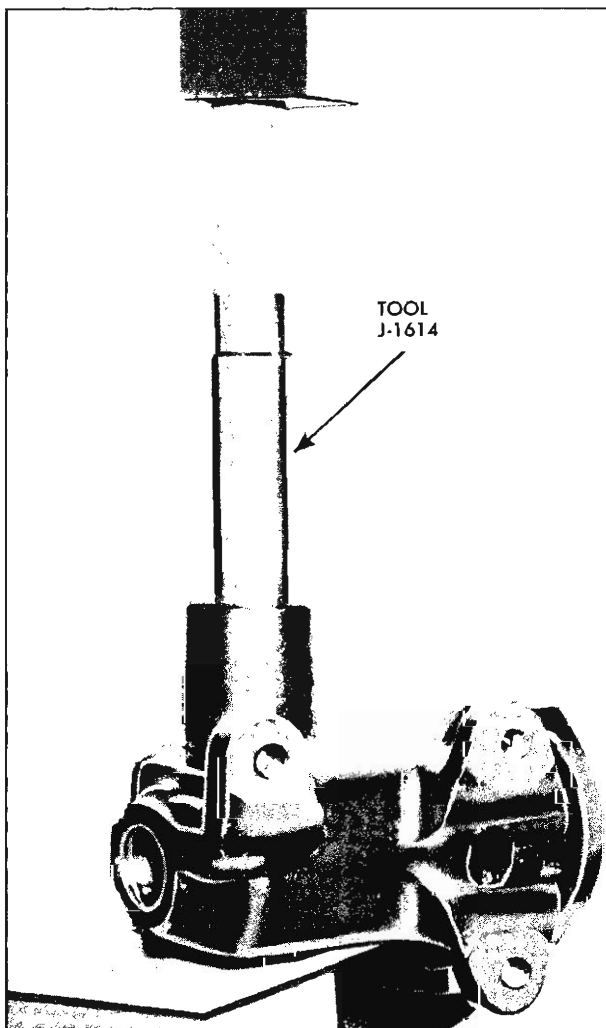

Fig. 47—Pressing Sector Shaft Bushing
1. Support steering gear housing in an arbor press and press sector shaft bushing from housing with Tool J-1614, inserted from lower end of housing as shown (fig. 47).